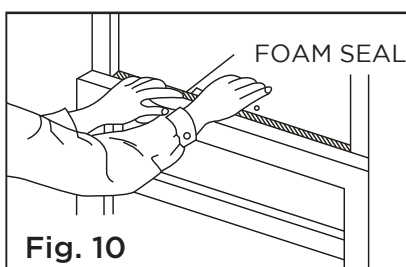

Fig. 10
- D. Cut Window sash seal foam and insert it in the space between the upper and lower sashes (Fig. 10).